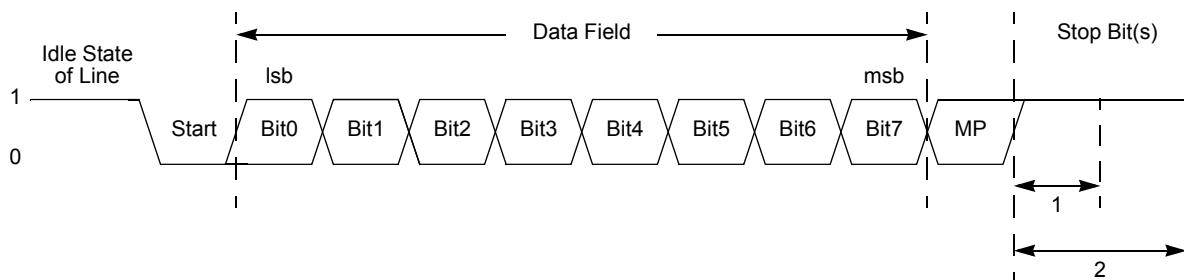

**Figure 13. UART Asynchronous MULTIPROCESSOR Mode Data Format**
The UART has a MULTIPROCESSOR (9-bit) mode that uses an extra (9th) bit for selective communication when a number of processors share a common UART bus. In MULTIPROCESSOR mode (also referred to as 9-bit mode), the multiprocessor bit (MP) is transmitted immediately following the 8-bits of data and immediately preceding the Stop bit(s) as displayed in Figure 13. The character format is given below: